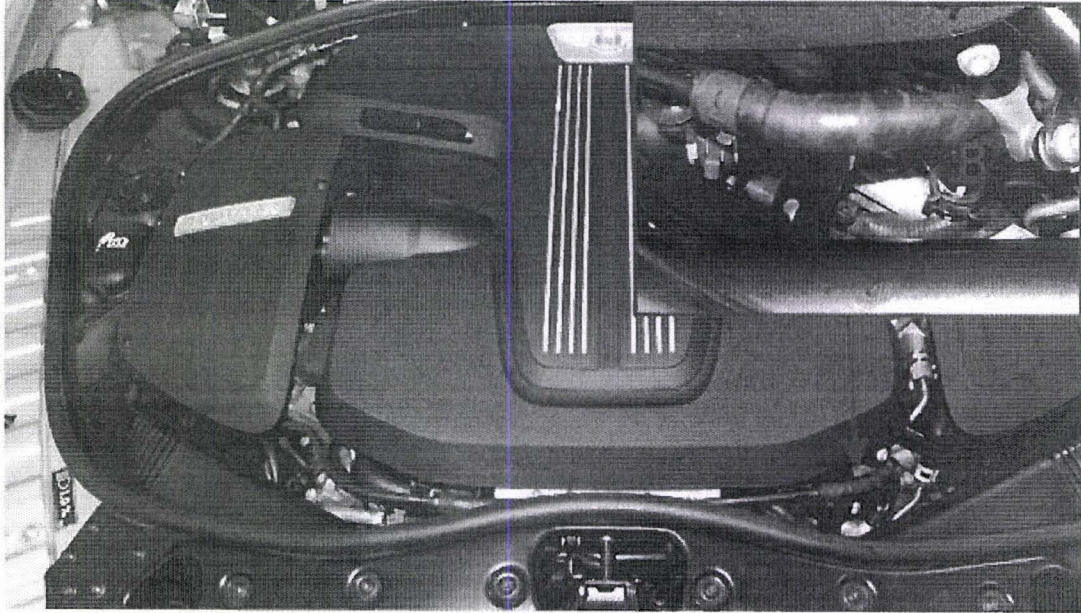

Figure 3
5. Referencing figure 3 locate the coolant hose (B) containing the second one way valve